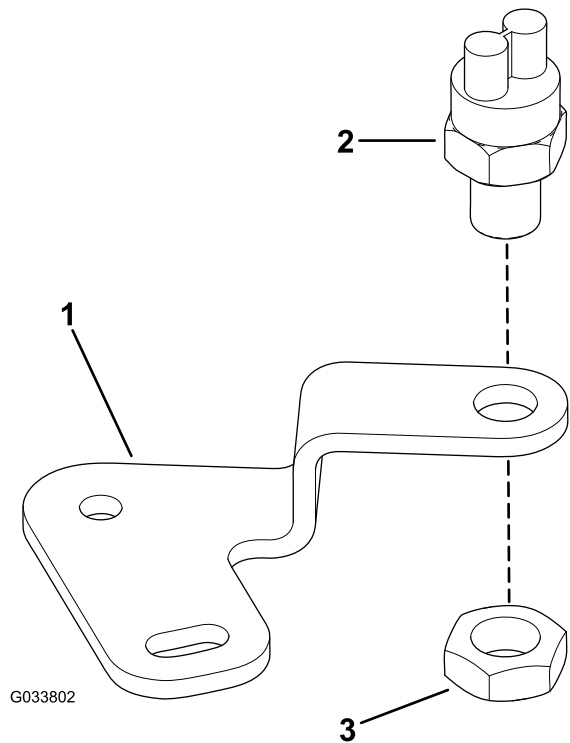

Figure 3
2. Install the ball switch to the ball-switch bracket with the jam nut (9/16 inch) as shown in Figure 3.